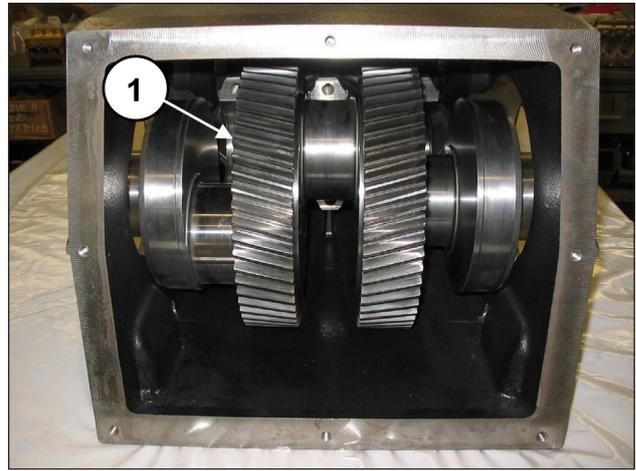

Fig. 51
**The bend shaft must be inserted into the casing so that the teeth on the ring gears are oriented as shown in Fig. 51.**